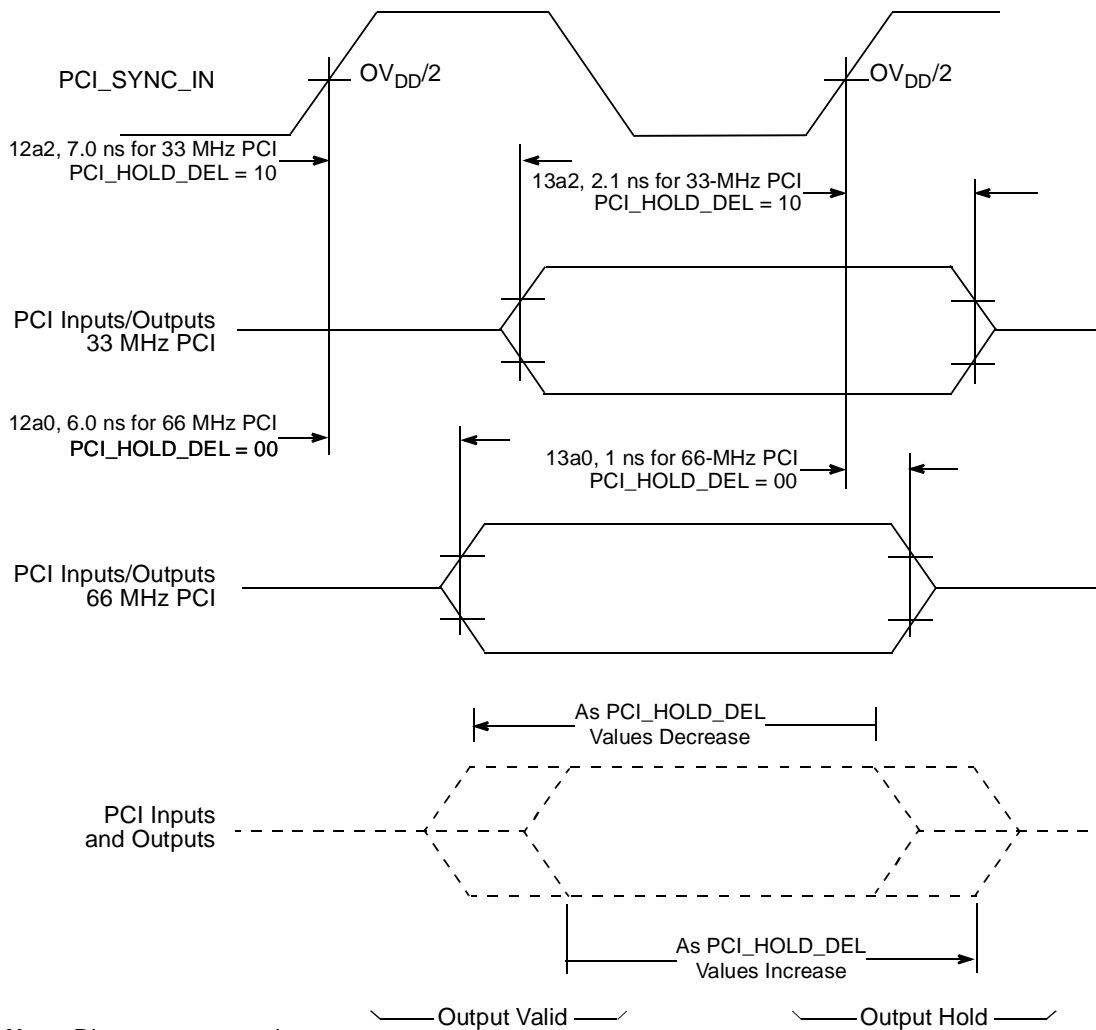

Figure 15. PCI_HOLD_DEL Effect on Output Valid and Hold Times
12a	PCI_SYNC_IN to output valid, see Figure 15
13a	Output hold (PCI), see Figure 15
- To meet minimum output hold specifications relative to *PCI_SYNC_IN* for both 33- and 66-MHz PCI systems, the MPC8245 has a programmable output hold delay for PCI signals (the *PCI_SYNC_IN* to output valid timing is also affected). The initial value of the output hold delay is determined by the values on the \overline{MCP} and \overline{CKE} reset configuration signals; the values on these two signals are inverted and stored as the initial settings of $PCI_HOLD_DEL = PMCR2[5, 4]$ (power management configuration register 2 <0x72>), respectively. Since \overline{MCP} and \overline{CKE} have internal pull-up resistors, the default value of PCI_HOLD_DEL after reset is 0b00. Further output hold delay values are available by programming the PCI_HOLD_DEL value of the PMCR2 configuration register. Figure 15 shows the PCI_HOLD_DEL effect on output valid and hold times.
Figure 15 provides the PCI_HOLD_DEL effect on output valid and hold times.